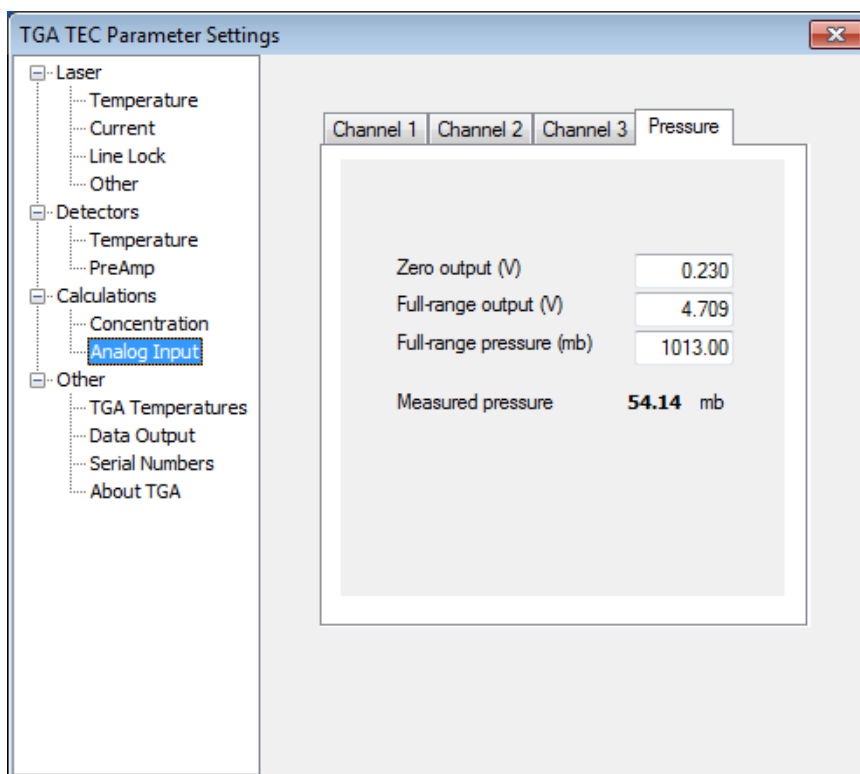

FIGURE 7-20. Typical pressure value inputs (values are specific to each TGA)
Channel 4 measures sample cell pressure. Each TGA pressure sensor is individually calibrated, to determine appropriate values for the **Zero output (V)** and the **Full-range output (V)**. These are recorded in documents supplied with the TGA. Typical values are shown in FIGURE 7-20.